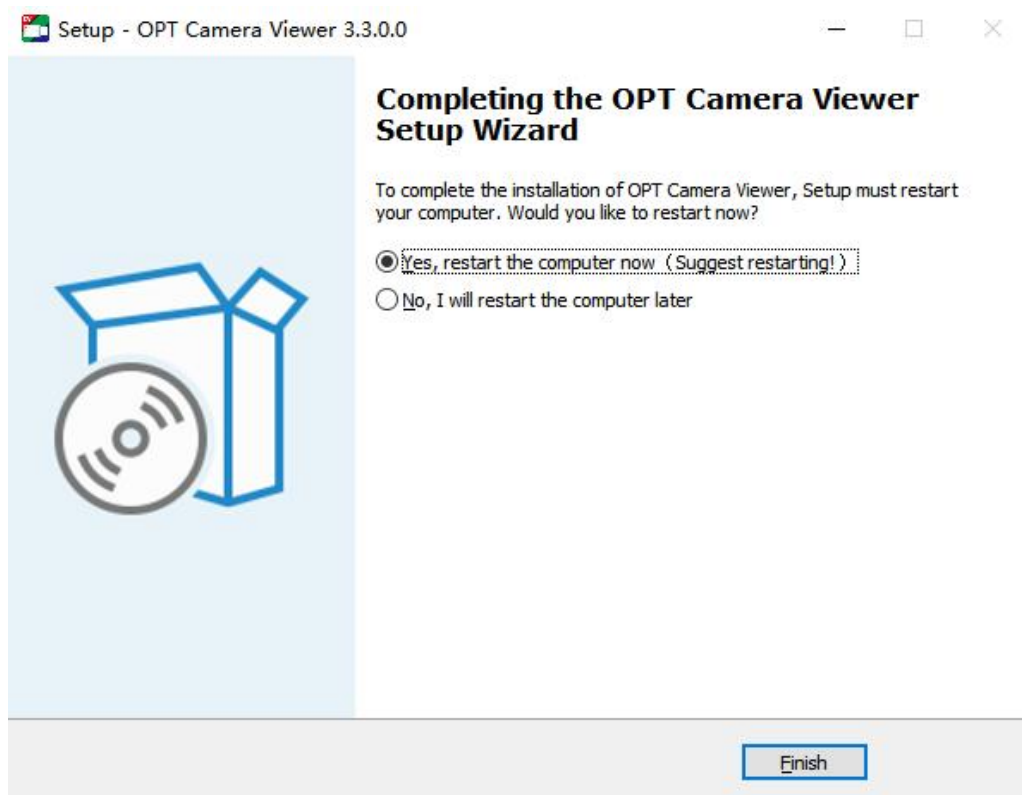

Figure 3-5 Software installation success window
Step6 The software installation success window pops up as shown in Figure 3-5. The software is OPTCameraViewer installed successfully. Click the Finish button to end the installation process.